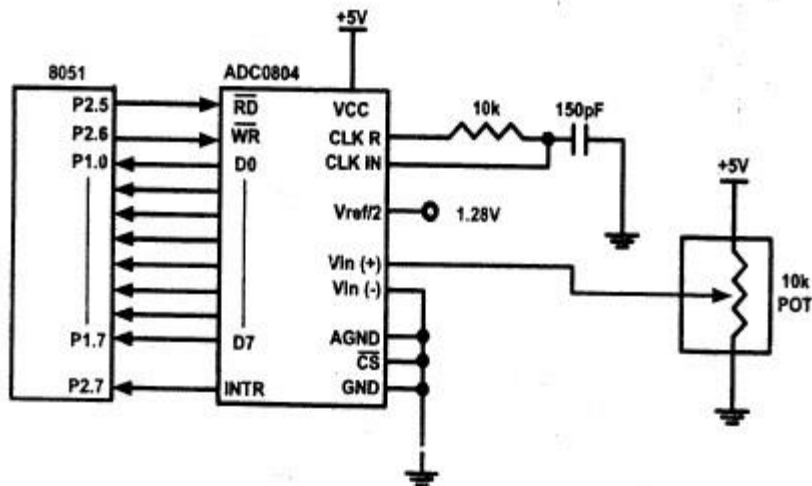

Figure 5.7 8051 Connection to ADC0804 with Self-Clocking
- Figures 5.7 and 5.8 show two ways of providing clock to the ADC0804.